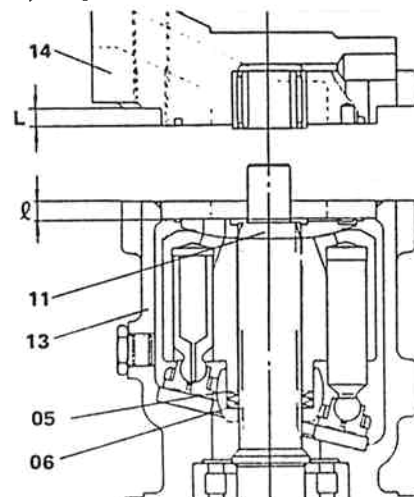

Fig.6 Checking Spring Deflection
- 6) Place the cylinder block subassembly with the front cover down. Place valve plate (11) on the cylinder block subassembly, and measure the dimension Q from the upper face of case (13) to the upper face of the valve plate (see Figure 6). Measure also the dimension L of the protrusion of valve cover (14). Then, confirm that dimension $L-Q$ (amount of spring (05) deflection) is in the allowable value shown in Table 7-2. If the dimension is out of the specified value, adjust the spring shims.